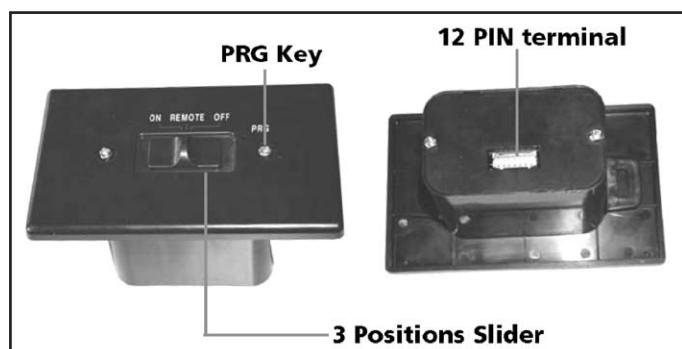

Figure 109: Proflame Receiver.
The Proflame Receiver (Figure 109) connects directly to the gas valve, stepper motor, DFC, and Fan Control Module with a wiring harness. The Receiver is powered by four (4) AA type batteries. The Receiver accepts commands via radio frequency from the Transmitter to operate the appliance in accordance with the particular Proflame system configuration. The Receiver three (3) position slider switch can be set to one of three positions: ON (Manual Override), Remote (Remote control), or Off.